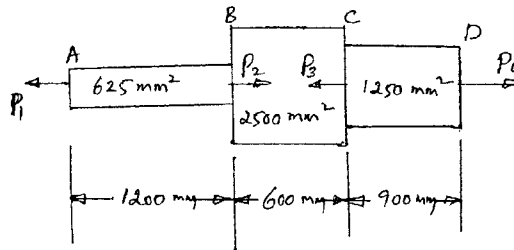

Fig.Q.1(c)
- c. A member ABCD is subjected to point loads P_1 , P_2 , P_3 and P_4 as shown in Fig.Q.1(c). Calculate the force P_2 necessary for equilibrium, if $P_1 = 45$ kN, $P_3 = 450$ kN and $P_4 = 130$ kN. Determine the total elongation of the member, assuming the modulus of elasticity to be 2.1×10^5 N/mm². (08 Marks)